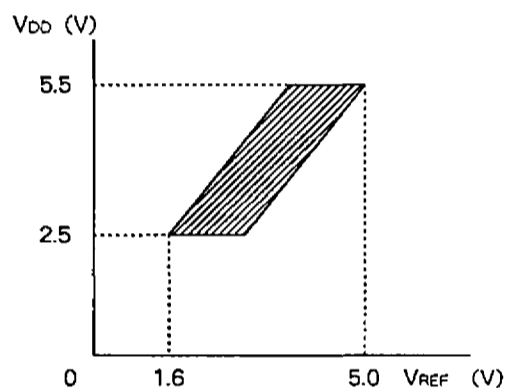

Fig. 5 Power supply voltage detection reset function chart
The graph in Fig. 5 shows the relationship between the power supply voltage V_{DD} and reference voltage V_{REF} of the power supply voltage detection reset function.
- Note** 1) The graph in Fig. 5 serves as guide to the function operation area obtained using average devices.